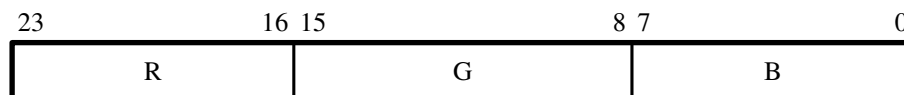

Figure 10. 24-bit RGB Color Space.
- 24-bit RGB — This format uses 8 bits for each color as shown in Figure 10. This mode is defined as 8 bits per color and three color planes.